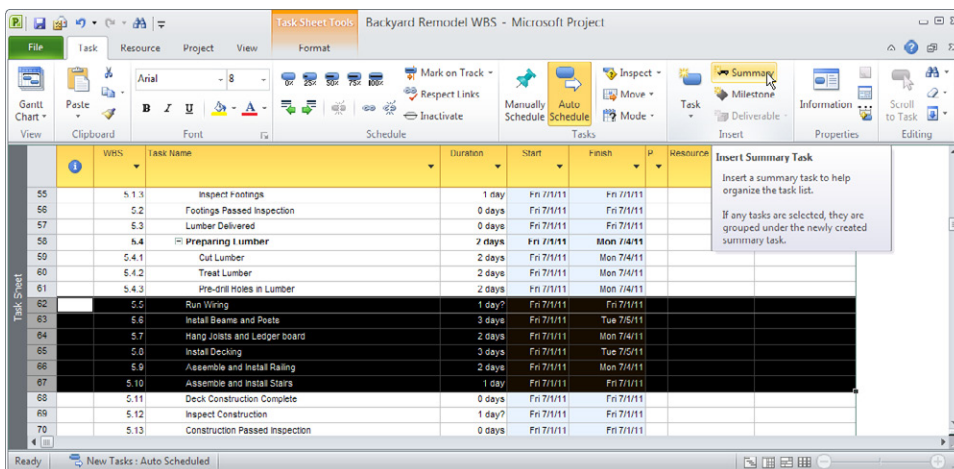

FIGURE 4-4 To insert a summary task for several existing tasks, select the tasks, and then use the Insert Summary Task command.
- Insert a new summary task for subtasks you select.** To create a summary task that comprises several existing tasks, select the subtasks, as shown in Figure 4-4. On the Task tab, in the Insert group, click Insert Summary Task. (The icon label is “Summary” and the icon looks like a summary taskbar with a yellow asterisk.) Project inserts a summary task at the level of the selected tasks, indents the selected tasks to the next lower level, fills in the new task’s Task Name cell with the text “<New Summary Task>”, and selects the text so you can type the name of the new summary task.